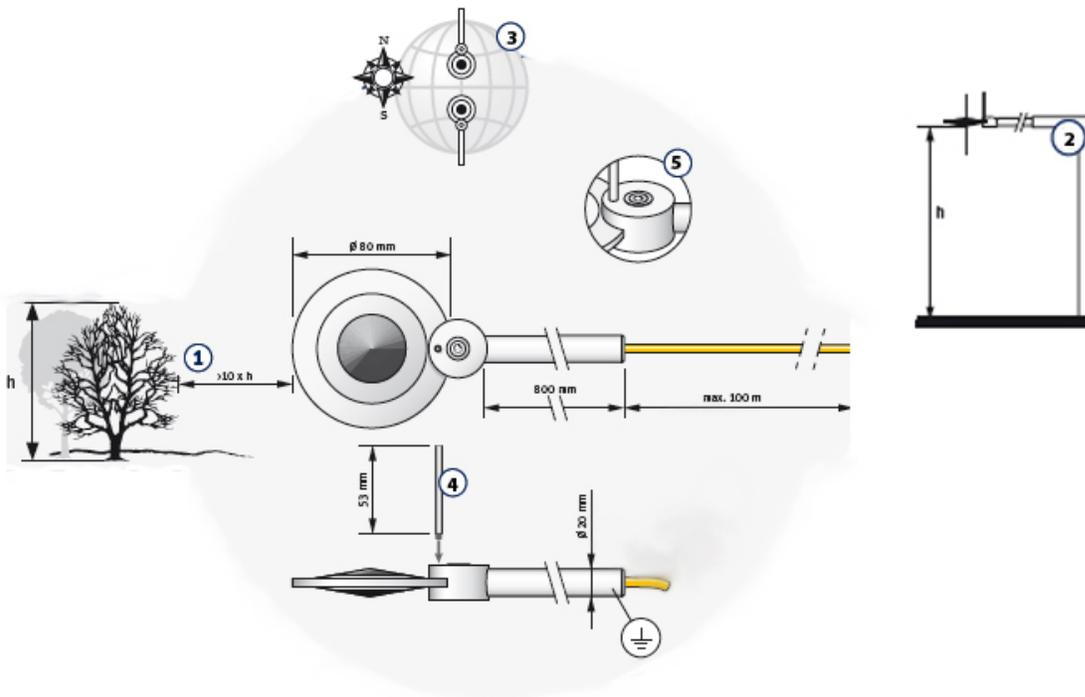

FIGURE 4-1. Siting and mounting diagram for the NR-LITE2
1. Mount the sensor so that no shadows or reflections will be cast on it at any time of day from obstructions such as trees, buildings, the mast, or structure on which it is mounted (1 in FIGURE 4-1).
2. To avoid shading or reflection effects and to promote spatial averaging, the NR-LITE2 should be mounted at least 1.5 m above the ground or crop surface. It is recommended that the NR-LITE2 be mounted to a separate vertical pipe at least 25 ft from any other mounting structures (2 in FIGURE 4-1).
3. Orient the sensor towards the nearest pole to avoid potential problems from shading (3 in FIGURE 4-1).
1. Screw in the bird repellent stick, which is shipped with the calibration documentation (4 in FIGURE 4-1).
4. Perform a coarse leveling of the sensor using the sensor's bubble level (5 in FIGURE 4-1).